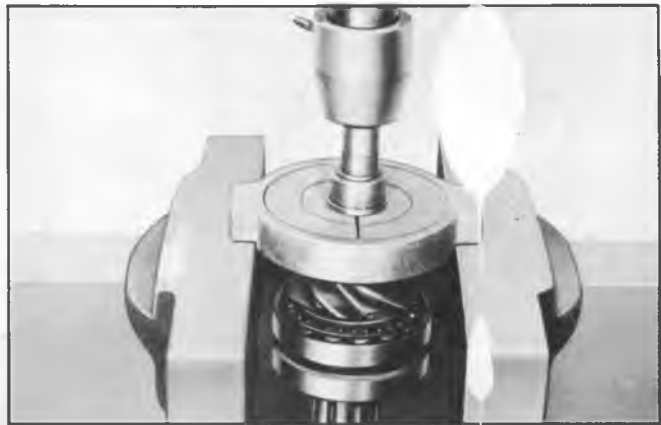

Fig. 5G—Pinion Rear Bearing Inner Race Removal (13,500, 15,000 and 17,000 Lb. Axles)
6. On the 13,500, 15,000, and 17,000 lb. axles press inner race of rear bearing from pinion, using Tools J-0358 and J-1453 (fig. 5G).